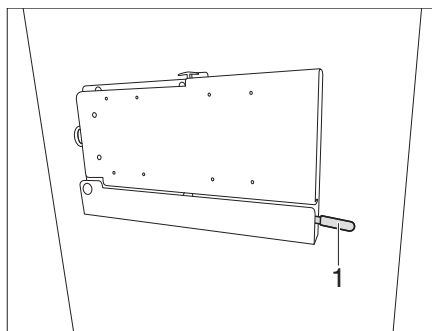

Fig. 134 Holder with jointed arm (variant 3)
- Pull down the lever (Fig. 134,1).
- Push the lever (Fig. 134,1) back up to lock.